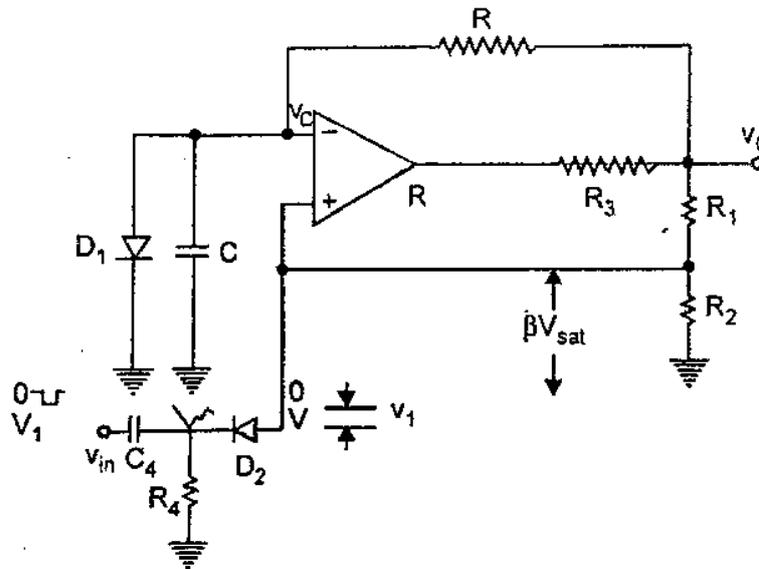

Fig. 3.34 Mono stable multivibrator
- The circuit shown in Fig. 3.34 is a modified form of an astable multivibrator.
- The circuit of Fig. 3.34 can be modified to achieve voltage to time delay conversion as in the case of square wave generator.